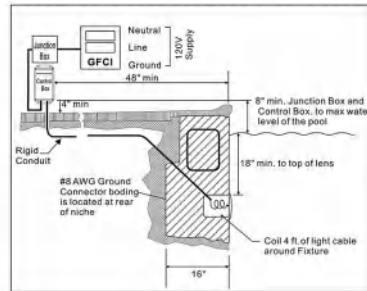

Figure 1
2. The junction box (or, for 12 volt models, the low voltage transformer) must be located at least eight(8) inches above water level, at least four (4) inches above ground level, and at least four (4) feet from the edge of the pool. See Figure 1.
3. The light fixture and all metal items within five(5) feet of the pool must be properly electrically bonded to a reliable point of grounding.
4. The wet niche must be properly installed so that the top edge of the underwater light's lens is at least 18 inches below the surface of the water in the pool. See Figure 1.
5. The wet niche must be properly electrically bonded and grounded via the No. 8 AWG ground connector located at the rear of the niche. See Figure 1.
1. Feed cord through conduit to junction box, leaving at least four (4) feet of cord at the light fixture to coil into the base of the light niche, see Figure 1. The four (4) feet of cord allows the light to be serviced after the pool is filled with water.
2. Cut the cord at the junction box, leaving at least six (6) inches of cord to make connections.
The junction box (or, for 12 volt models, the low voltage transformer) must be located at least eight(8) inches above water level, at least four (4) inches above ground level, and at least four (4) feet from the edge of the pool. See Figure 1.
- The light fixture and all metal items within five(5) feet of the pool must be properly electrically bonded to a reliable point of grounding.
- The wet niche must be properly installed so that the top edge of the underwater light's lens is at least 18 inches below the surface of the water in the pool. See Figure 1. The wet niche must be properly electrically bonded and grounded via the No. 8 AWG ground connector located at the rear of the niche. See Figure 1.
- Feed cord through conduit to junction box, leaving at least four (4) feet of cord at the light fixture to coil into the base of the light niche, see Figure 1. The four (4) feet of cord allows the light to be serviced after the pool is filled with water.
- Cut the cord at the junction box, leaving at least six (6) inches of cord to make connections.